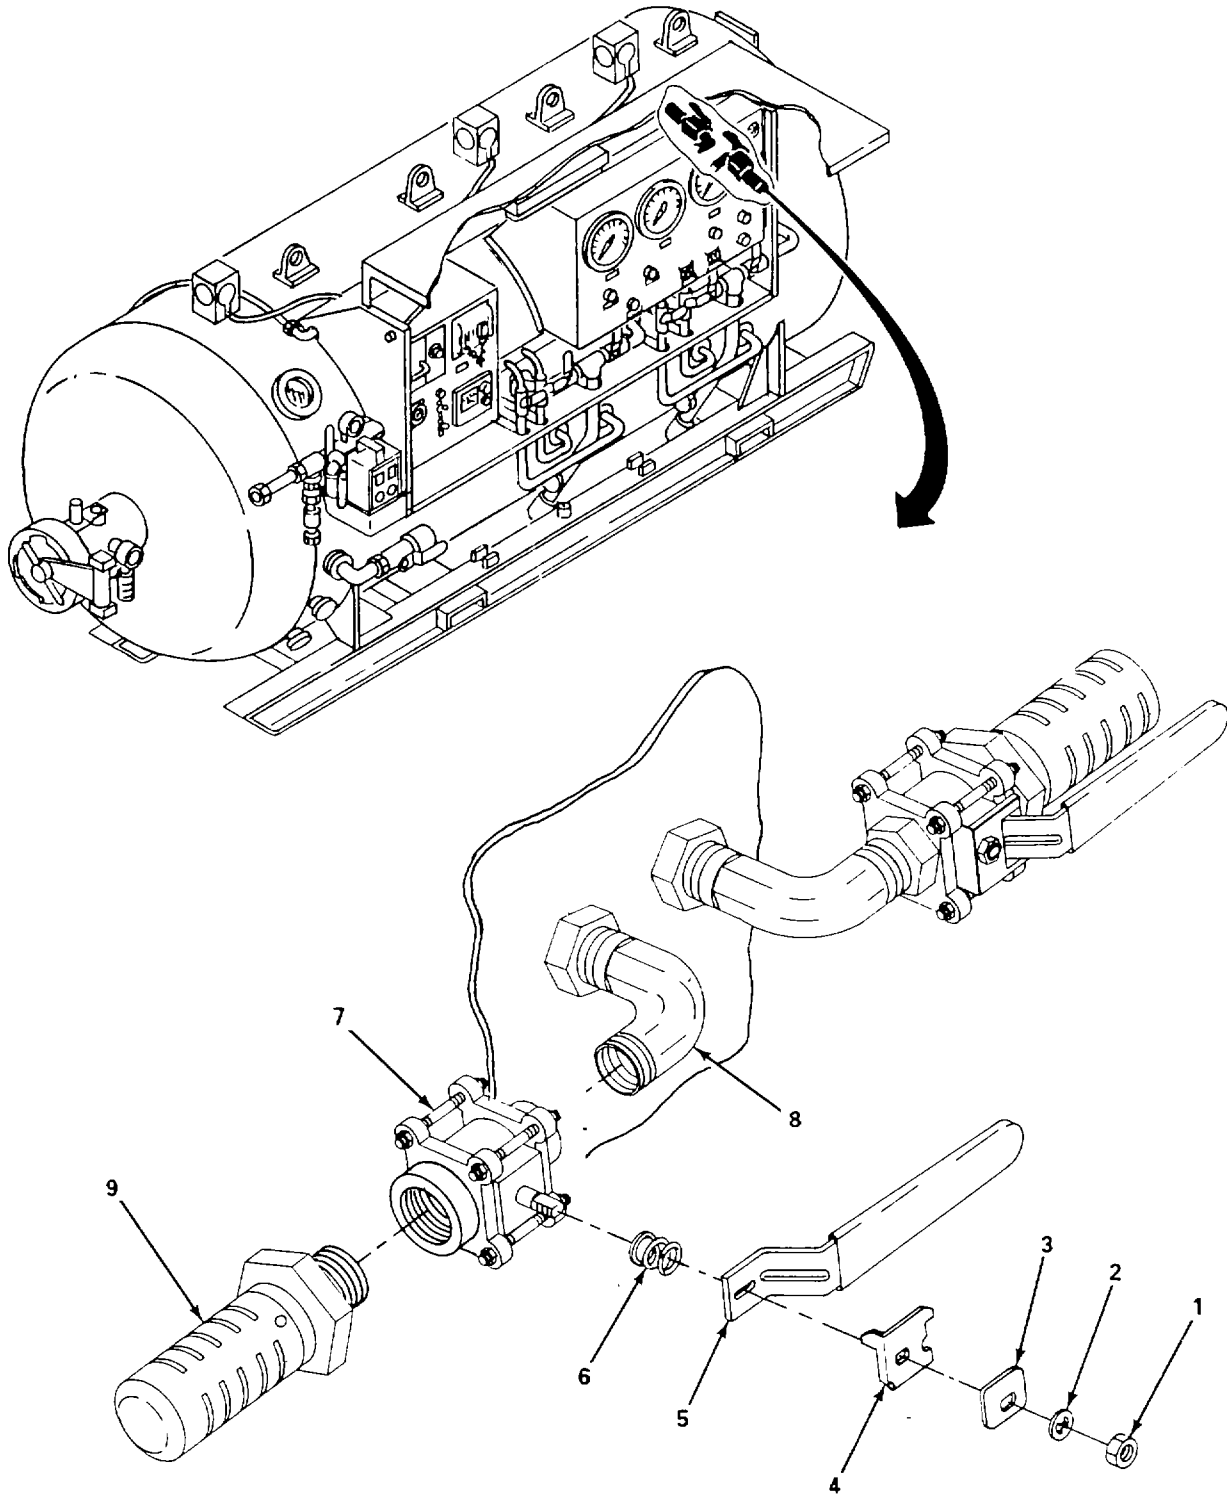

Figure 5-54. Dump Valves and Silencers, Replace.
*a. Replace. (figure 5-54)***WARNING**